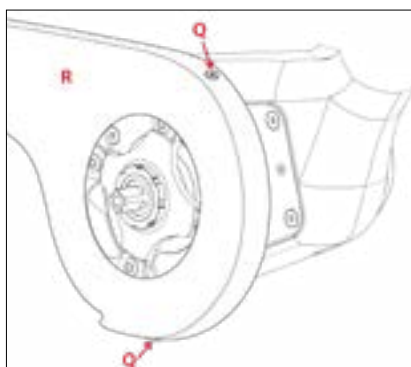

Figure 4.13 Mid motor assembly 8
6. Install the chain guard [R] and mount it to the chain guard bracket using two M5 x 6 fasteners [Q] (Fig. 4.13). Skip this step if the bike does not have a chain guard.
8. Install the chain guard [R] and mount it to the chain guard bracket using two M5 x 6 fasteners [Q] (Fig. 4.13). Skip this step if the bike does not have a chain guard.